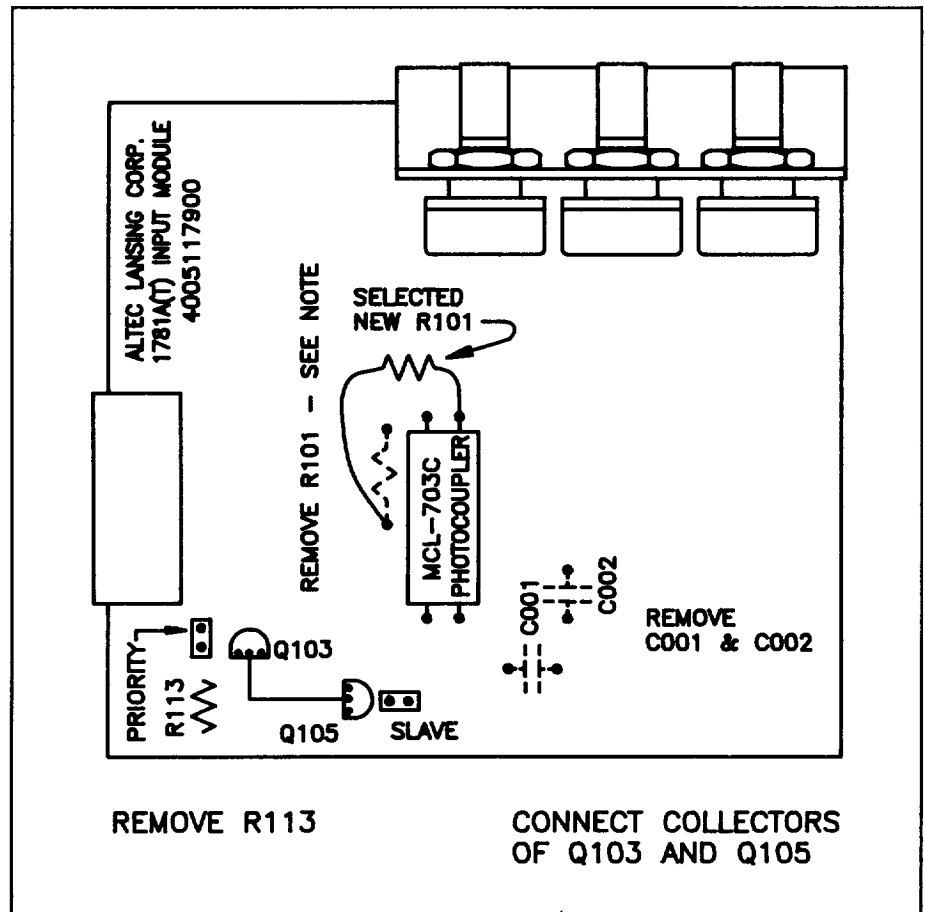

Figure 7. Optional VOX GATE Modification Layout
The **A** modification consist of (referring to figure 7):
4. Connect a resistor from the junction of C102/R101 and the junction of C224 (negative side) and MCL703C (resistor value will depend on the required threshold, from 5 kΩ to 50 kΩ, refer to Figure 7 and Table V).
The **B** modification consist of (referring to figure 7):